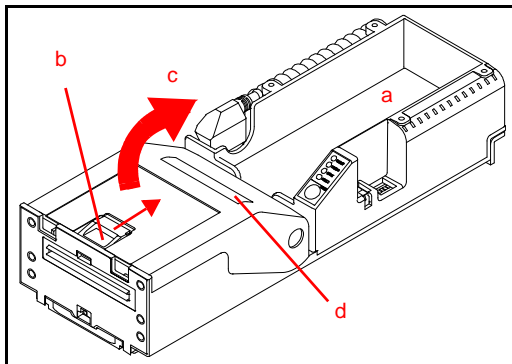
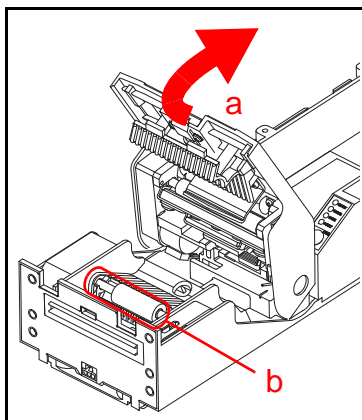

Figure 11 Cleaning the Ticket-In Slot
Figure 12 Presenter Assembly
2. Remove Tickets from the Printer's Paper Tray (see Figure 11 a on page 17).
5. Insert the Cleaning Card into the Ticket-In Slot (see Figure 11 d on page 17). The Cleaning Card will feed into the Slot up to the loading point.
11. Feed at least two (2) Tickets through the Printer to wipe off excess moisture on the Print Head.
2. Remove Tickets from the Printer's Paper Tray (Figure 11 a).
3. Press the Lid Release Lever toward the rear of the Printer to release the lid (Figure 11 b).
4. Rotate the Lid up in the direction indicated by the red arrow (Figure 11 c and Figure 12 a on page 18) to access the Printer interior.
- Ticket-In Slot (Figure 11 d)
- Presenter Assembly (refer to Figure 12 b on page 18)
- Paper Tray (Figure 11 a)